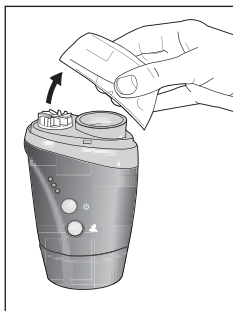

Fig. 1
1. Ensure that the power cord is disconnected from the power outlet and that the battery pack is disconnected from the nebulizer housing body, Fig 1.
2. Remove the clear lid from the nebulizer body, Fig 1.